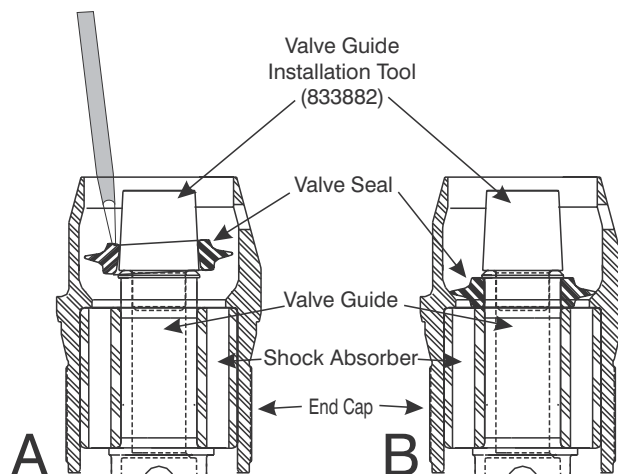

Figure 9-5. Press Valve Seal into End Cap.
12. Look inside the non-threaded end of the End Cap and lubricate that part of the Valve Guide that protrudes from the Shock Absorber. See Figure 9-5-A.
13. Lubricate the Valve Guide Installation Tool 833882. Insert the small diameter of the Installation Tool into the Valve Guide. The small end of the cone faces up as shown in Figure 9-5-A.
end of the Valve Guide Installation Tool. See Figure 9-5-A.
15. With a large, flat screw driver, press the Valve Seal into the End Cap. Moving progressively around the seal, press each quarter of the seal deeper into the End Cap until the seal seats between the Shock Absorber and the shoulder at end of the Valve Guide as shown in Figure 9-5-B.